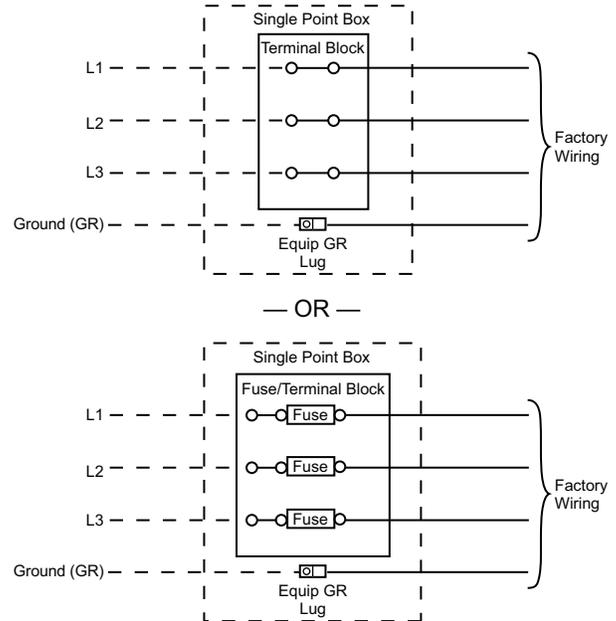

Fig. 18 — Power Wiring Connections
contactor IFC (see wiring diagram label for control box component arrangement) or at factory-installed option non-fused disconnect switch. Maximum wire size is #2ga AWG (copper only) per pole on contactors, #2ga AWG (copper only) per pole on optional disconnect, and 4/0 AWG (copper only) per pole on terminal or fuse blocks on units with single point box (see Fig. 17). See Fig. 18 and unit label diagram for field power wiring connections.
The factory-installed optional non-fused disconnect (NFD) switch is located in a weatherproof enclosure located under the main control box. The manual switch handle and shaft are shipped in the disconnect enclosure. Assemble the shaft and handle to the switch at this point. Discard the factory test leads (see Fig. 18).
All field wiring must comply with NEC and all local codes. Size wire based on MCA (Minimum Circuit Amps) on the unit informative plate. See Fig. 18 and the unit label diagram for power wiring connections to the unit power terminal blocks and equipment ground. Maximum wire size is #2ga AWG (copper only) per pole on contactors, #2ga AWG
(copper only) per pole on optional disconnect, and 4/0 AWG (copper only) per pole on terminal or fuse block on units with single point box. See Fig. 18 and unit label diagram for field power wiring connections.
2. Install power lines to terminal connections as shown in Fig. 18 on page 13.